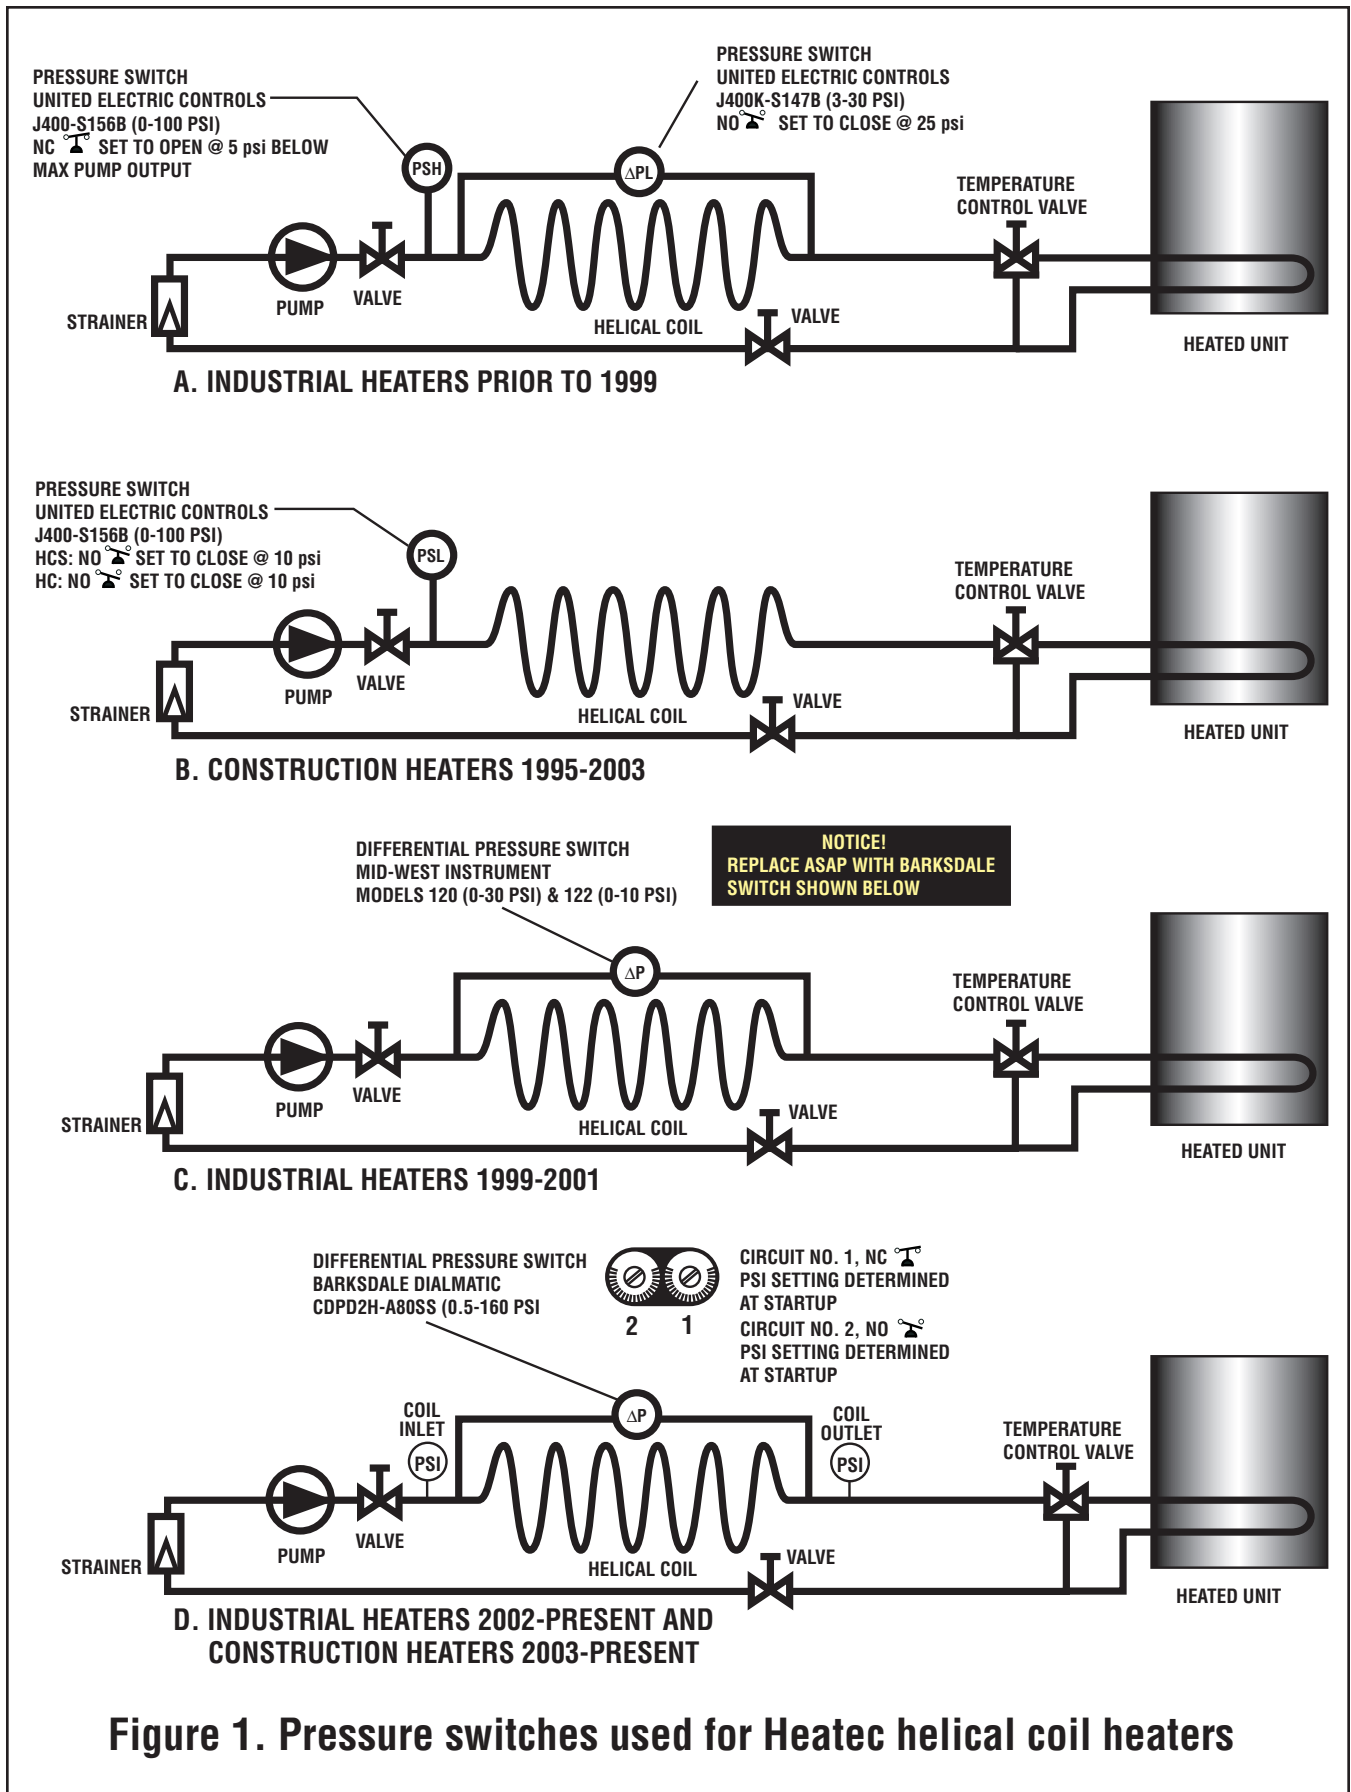

Figure 1. Pressure switches used for Heatec helical coil heaters
Figure 1 shows a history of what switches we have used and when we started using them. Early construction heaters had no pressure switches and are not pictured in Figure 1. We have improved our heater controls over the years. We have also made changes to meet insurance codes.
INDUSTRIAL HEATERS PRIOR TO 1999 (A, FIGURE 1)
Switch J400K-S147B (shown as Δ PL in A, Figure 1) contains a single pole double throw (SPDT) switch. Its normally-open (NO) contacts should be set to *close* at a pressure of 25 psi. Its normally-closed (NC) contacts are not used on these heaters.
CONSTRUCTION HEATERS 1995 TO 2003 (B, FIGURE 1)
Switch J400-S156B (shown as PSL) is the same switch as in A, Figure 1. But here it is used to sense *low* pressure. On HCS (single line) heaters its NO contacts should be set to *close* at a pressure of 10 psi. On HC (manifold heaters) heaters its NO contacts should also be set to *close* at a pressure of 10 psi. Its NC contacts are not used on these heaters.
INDUSTRIAL HEATERS 1999 TO 2001 (C, FIGURE 1)
INDUSTRIAL HEATERS 2002 TO PRESENT AND CONSTRUCTION HEATERS 2003 TO PRESENT (D, FIGURE 1)